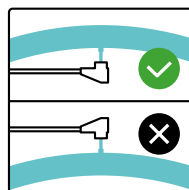

Fig. 4
- The valve must point inwards (towards the hub) (**Fig. 4**).